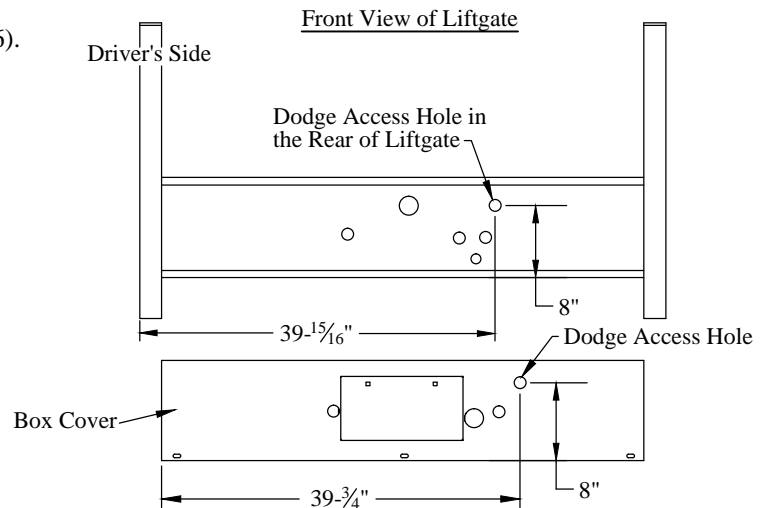

Figure 16: Spare tire access holes.
2. **Remove** the black plastic plugs for your application (Figure 16).